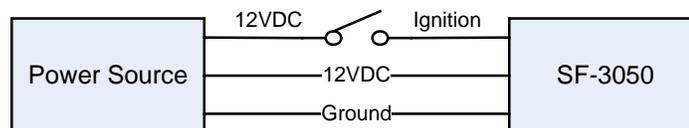

Figure 81: Proper External Power Source Setup
-  The SF-3050 will not shut down properly unless the external power source is correctly connected to the SF-3050 as displayed in Figure 81.